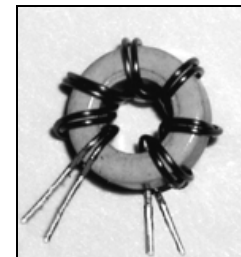

**Figure 19**
3. Wind 37 turns on each core as shown in Figure 19.